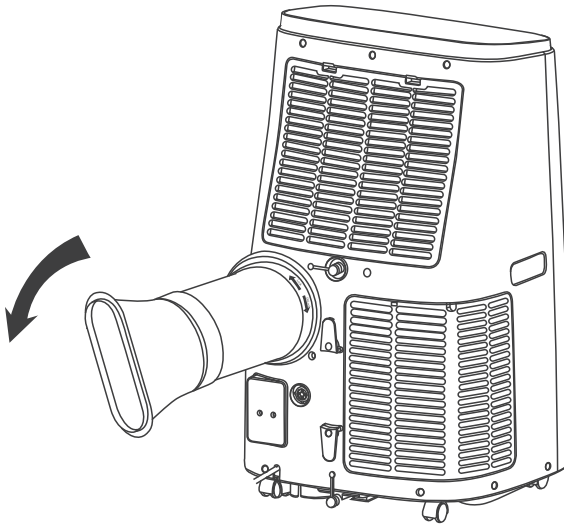

Figure 1
Install the heat pipe assembly (as shown in Fig.1)
- Insert the heat pipe assembly (the end of the exhaust joint) into the back panel vent slot (push to the left) and complete the assembly (as shown in figure 1).